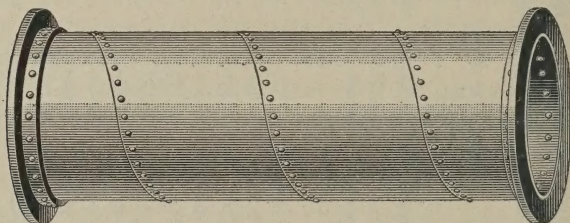

FIG. 1
9. The **spiral riveted pipe** is made of sheets of black wrought iron, of certain wire-gauge thickness, split up into ribbons or narrow strips, and passed over a system of rollers that roll it into the required shape, which is shown in Fig. 1.
as in Fig. 1. Sometimes the flange is fastened by expanding and peening the pipe into a recess formed in the flange.